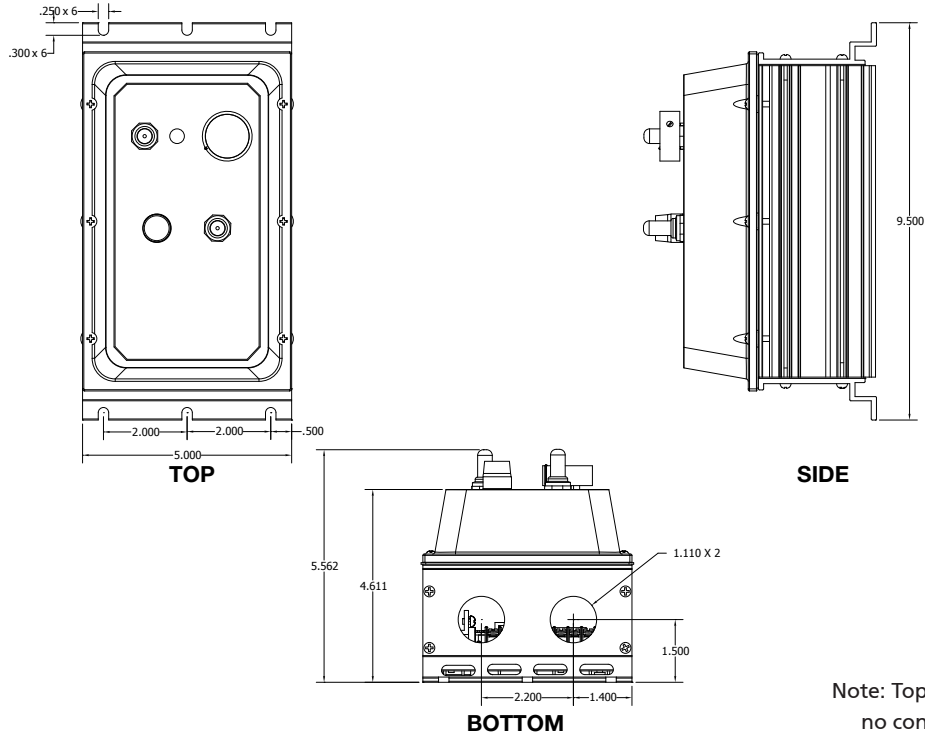

Figure 2
2. Refer to Figure 2 for mounting dimensions and layout mounting pattern on location selected.